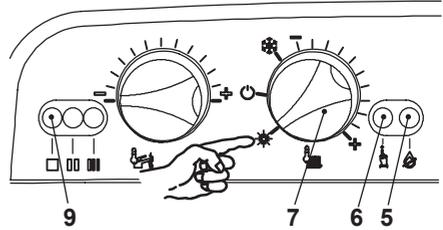

Fig. 7.8
- Set the function knob 7 as illustrated in Fig. 7.8.